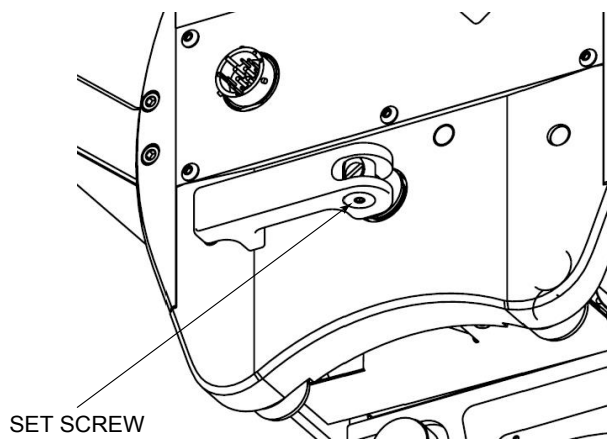

FIGURE 19 - Latch Set Screw
1. The first step in adjusting the clamp latch tension will be to loosen the set screw on the bottom of the latch assembly, see **FIGURE 19 - Latch Set Screw**.